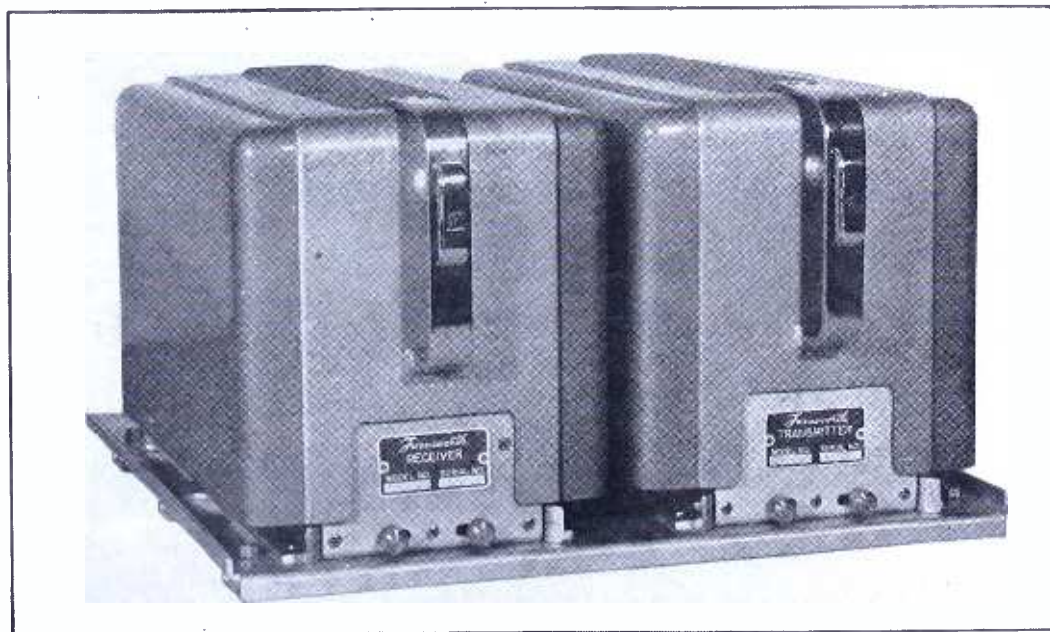

FIG. 15. TRANSMITTER OR RECEIVER CAN BE REPLACED WITHOUT REMOVING COVERS
**Central Station** ★ The central station equipment, Fig. 4, was installed at the northbound hump office, Fig. 2. The transmitter was crystal-controlled for operation on any pre-determined frequency assigned to railroad radio service in the 152- to 162-mc. band. The transmitter was a pre-production version of a model manufactured by Farnsworth for railroad use, with nominal power output of 10 watts, in lieu of the 15-watt rating of the production unit, Fig. 15. Phase modulation was employed, with maximum frequency swing of  $\pm 15$  kc. The effective audio-frequency range of the speech input circuits extended from approximately 150 cycles to 3,500 cycles, with a rise in audio-frequency response of approximately 6 db per octave between 300 and 3,000 cycles. Peak limiting prevented excessive frequency swing during modulation of the transmitter.